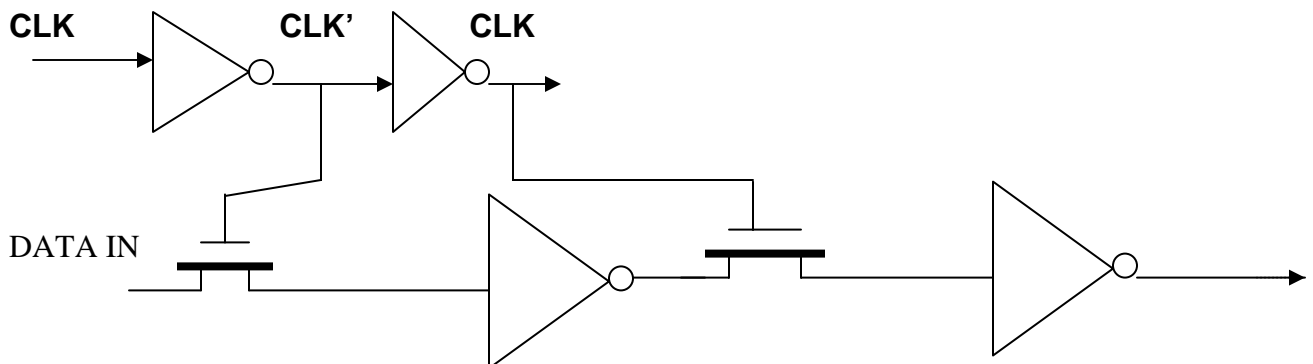

Fig.4 Dynamic Master-Slave Register of Q6
- A dynamic register is shown in Fig. 4. Determine the set up time, the hold time and the propagation delay of the register.